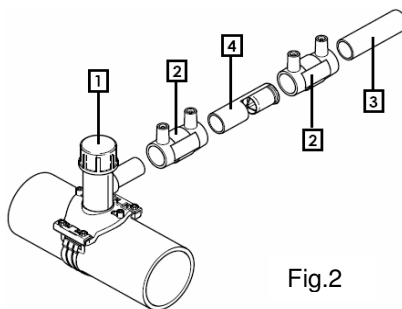

Fig.2
1. **Connect the pipe adapter [4] to the service line (Fig.2) CHECK FLOW DIRECTION ON THE LABEL**